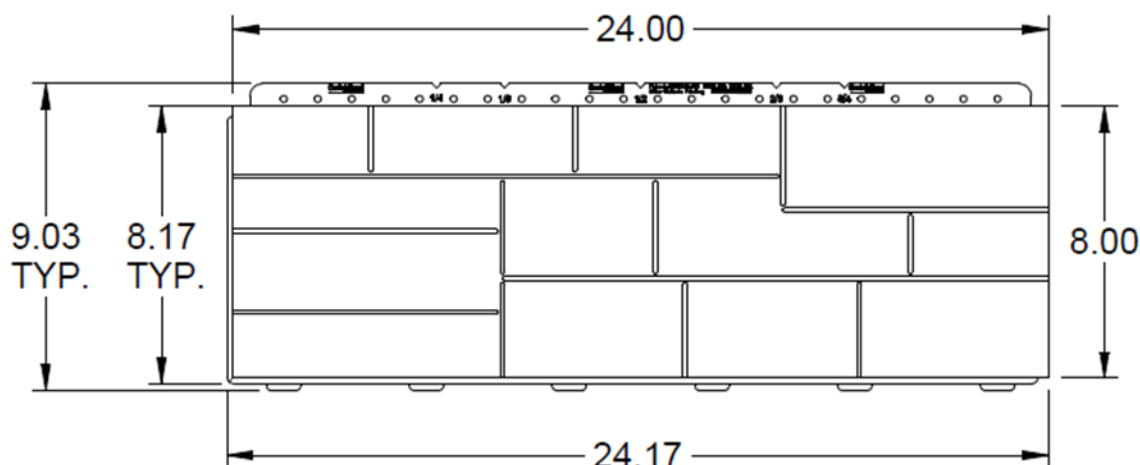

Figure 1 – 24" panel
3.1 STONEfacade™ is a pre-cast concrete and stainless steel panel that simulates natural stone. The concrete is cast with an integrated stainless steel (Type 304) rain screen insert creating the exterior facade panels. The façade is produced in three lengths 10", 14" and 24". All panels are 8" in height. The thickness of panels varies based on stone profile from 1 inch to 2.38 inch. See Figure 1, 2, 3 and 4 for details.